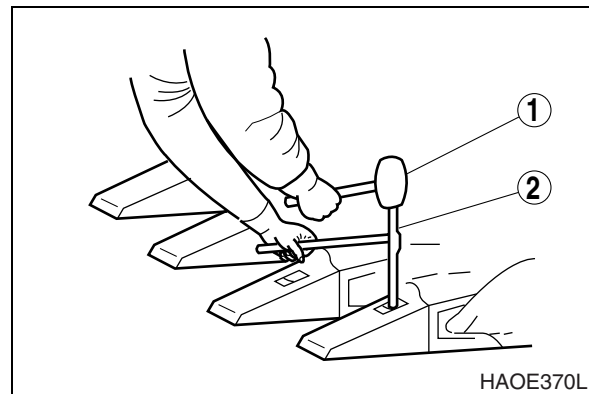

Figure 8
2. To replace a tooth, use a hammer (1, Figure 8) and punch (2) to drive locking pin assembly out of tooth and tooth adapter.